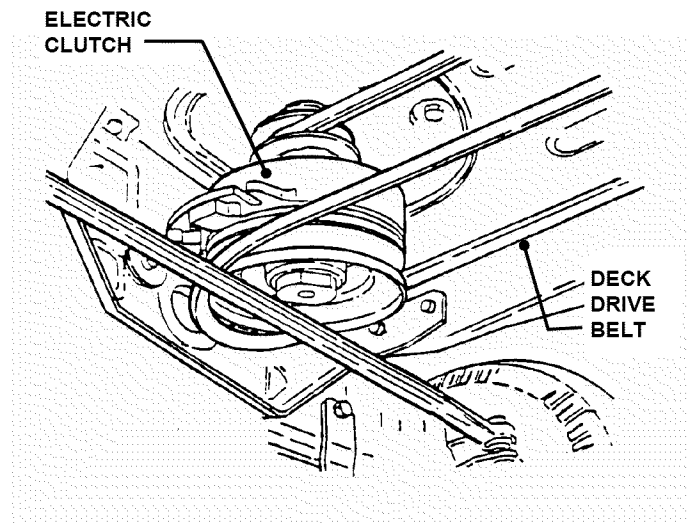

FIGURE 4.28
8. Remove deck drive belt from engine pulley bottom groove. See Figure 4.28.